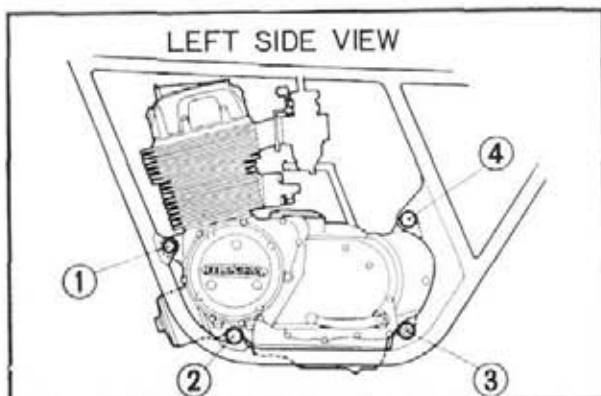

Fig. 2-6 ① 10 mm bolt
13. Unscrew the engine hanger bolts and nuts. (Fig. 2-6)
③ Rear engine hanger lower bolt
④ Engine hanger bolt C
⑤ 8 mm×56 bolt
⑥ 8 mm×45 bolt